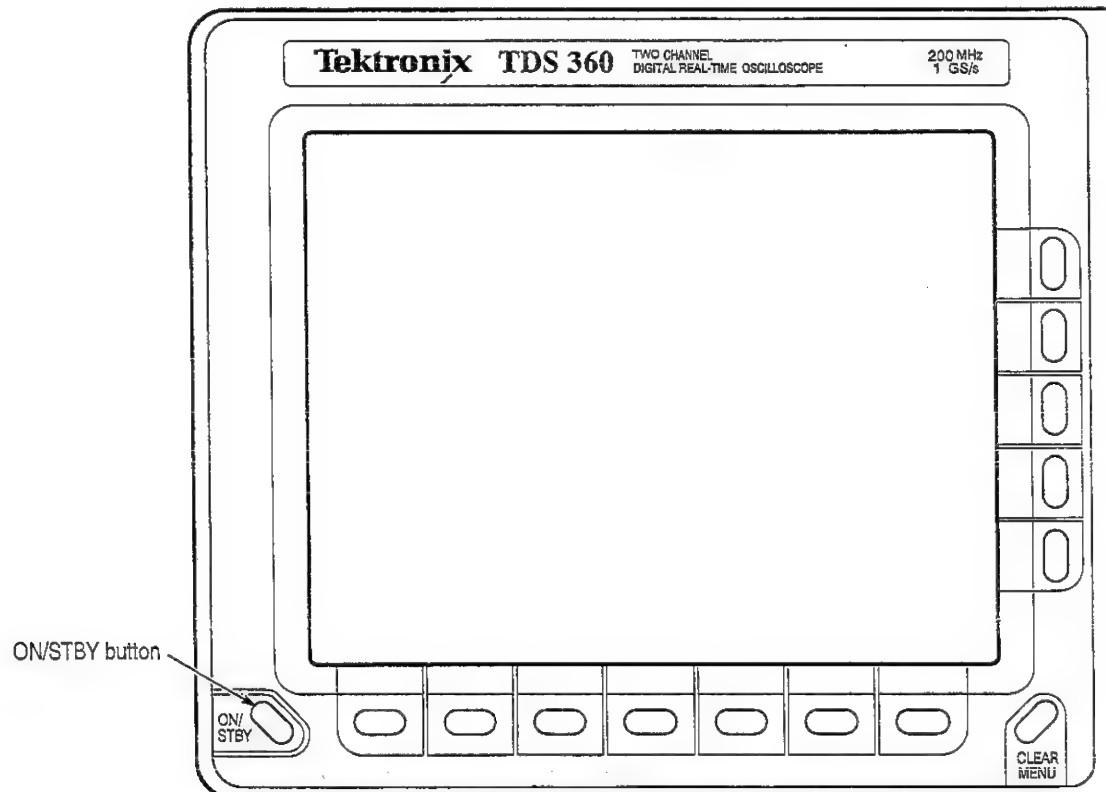

Figure 1-1: The ON/STBY button
5. Press the ON/STBY button to power up the oscilloscope (see Figure 1-1).